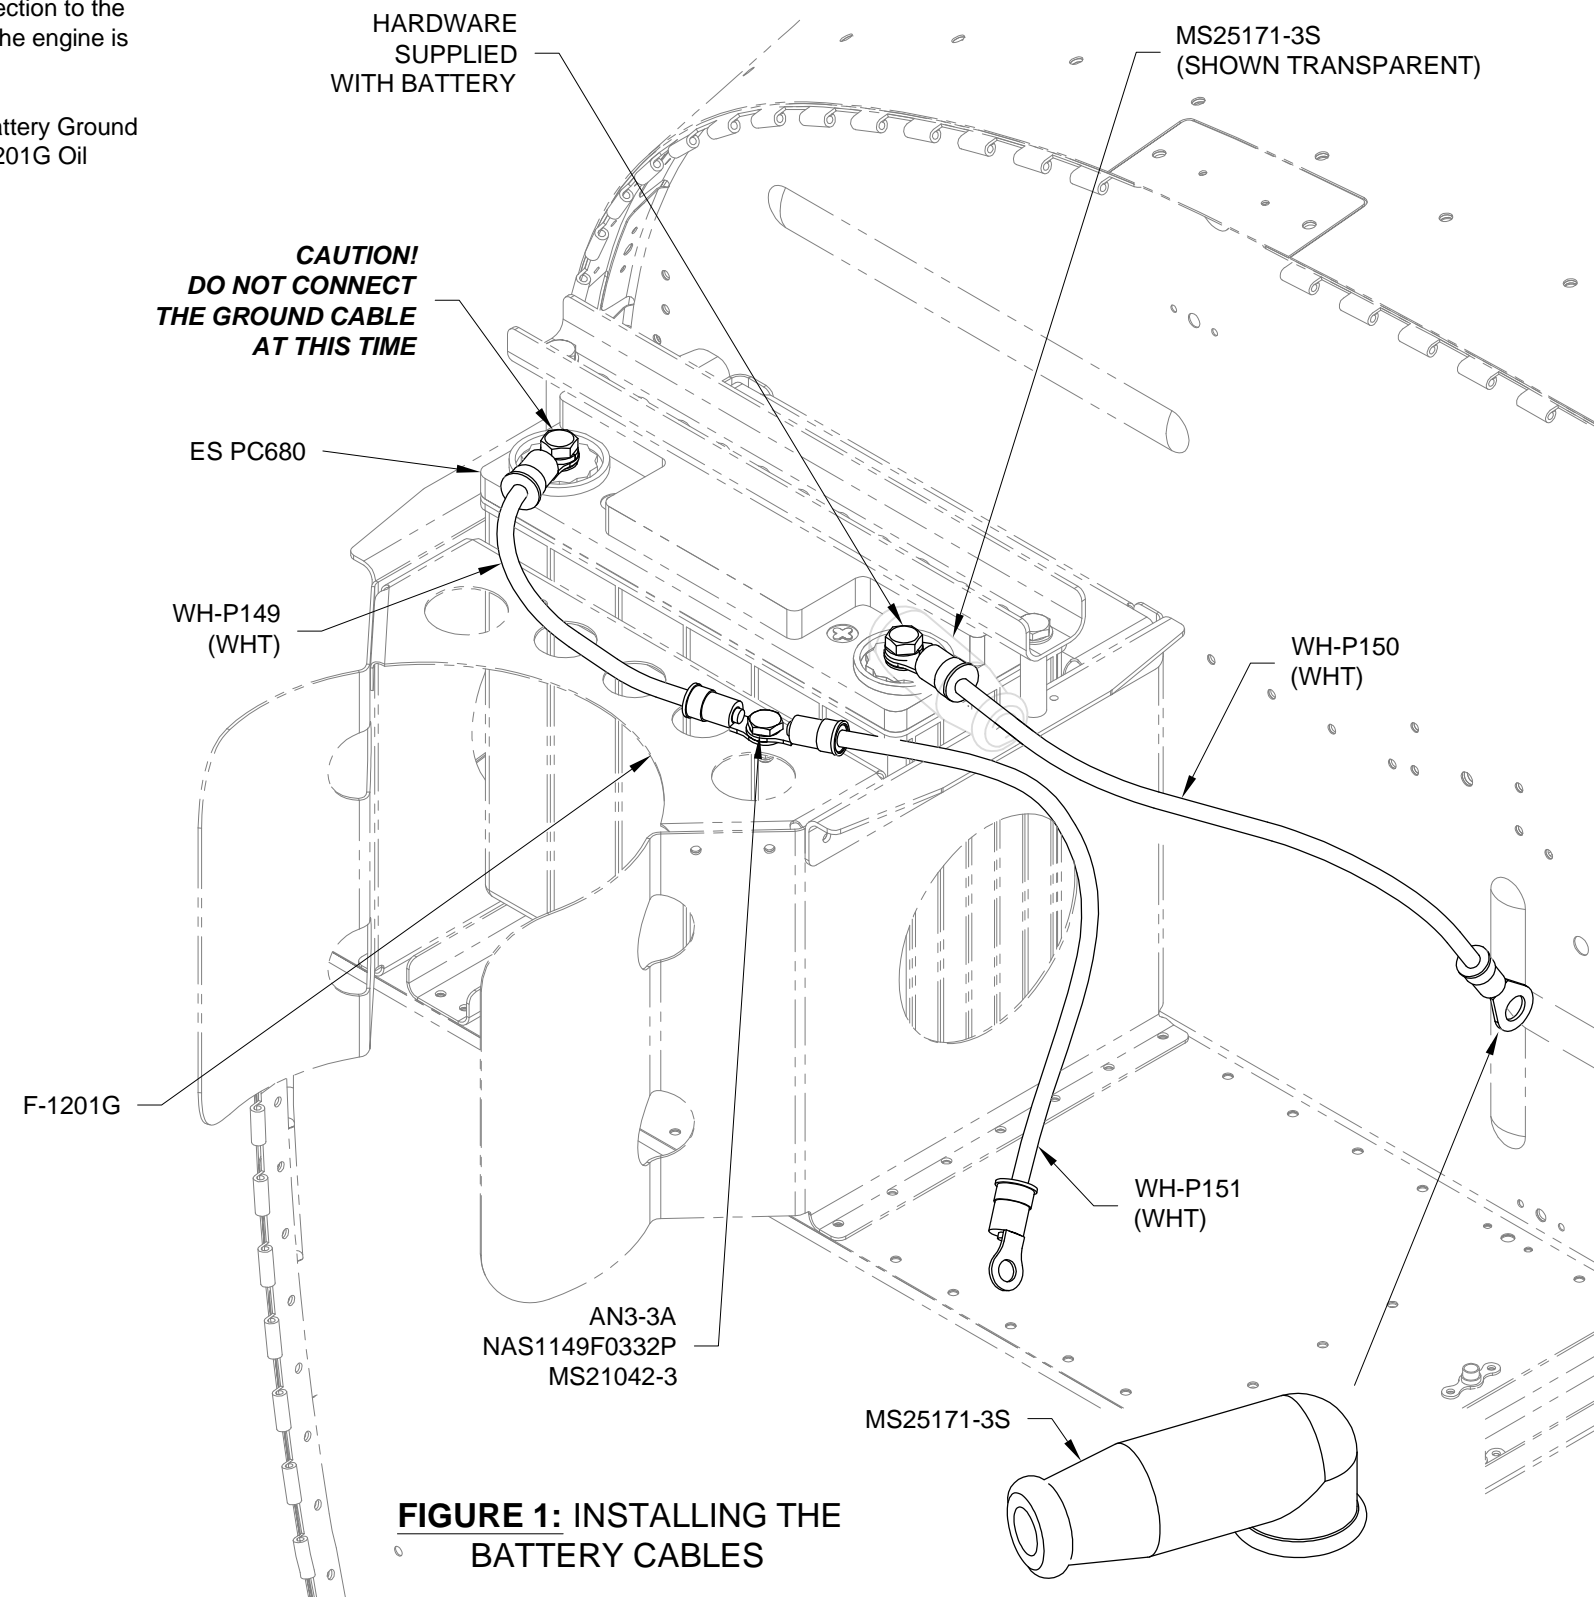

FIGURE 1: INSTALLING THE BATTERY CABLES
Using the hardware called out in Figure 1 attach the WH-P149 Battery Ground Cable and the WH-P151 (WHT) Engine Ground Cable to the F-1201G Oil Reservoir Brace.
Step 2: Install the WH-00063 Rotax Fwall Fwd Wiring Harness 25-pin d-sub labeled "FWL FWD" to the top of the AV-50000A RV-12 Control Module as shown in Figure 1.
From the harness separate out the WH-P761 (YEL). Route this wire through the cushioned clamp near the left ES CPU FAN, through a snap bushing in the com support bracket then down through the F-1202B Panel Base. See Figure 1.